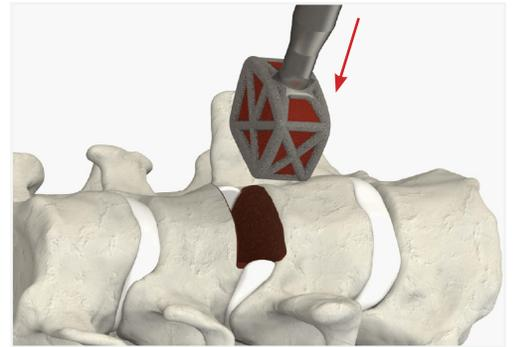

Figure 14
- ▲ Introduce the implant into the prepared intervertebral space and tap it into place with a mallet (Fig. 14). Confirm the proper placement of the implant using fluoroscopy.